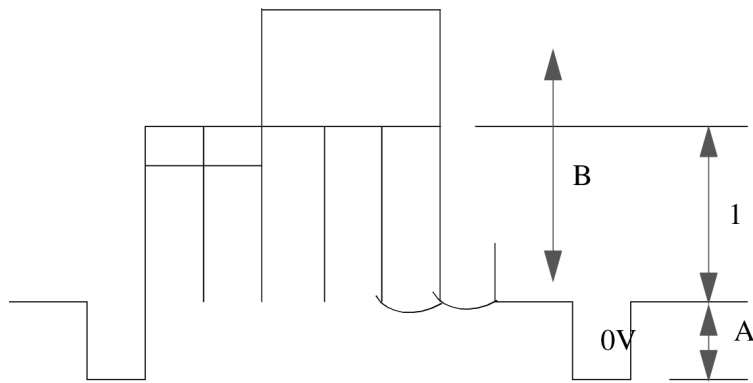

Fig. 1
5. Set (A) to $2.3 \pm 0.2V$ by BRT (CHK2) Fig. 1.
1. Connect oscilloscope probe to TPA 31 (G OUT) with 10k series resistor and adjust Contrast so that (B) as in Fig. 1 is $2.8 \pm 0.1V$.
2. Adjust 'Sub Colour' so that waveform as in Fig. 1 (1) $2.5 \pm 0.1V$.